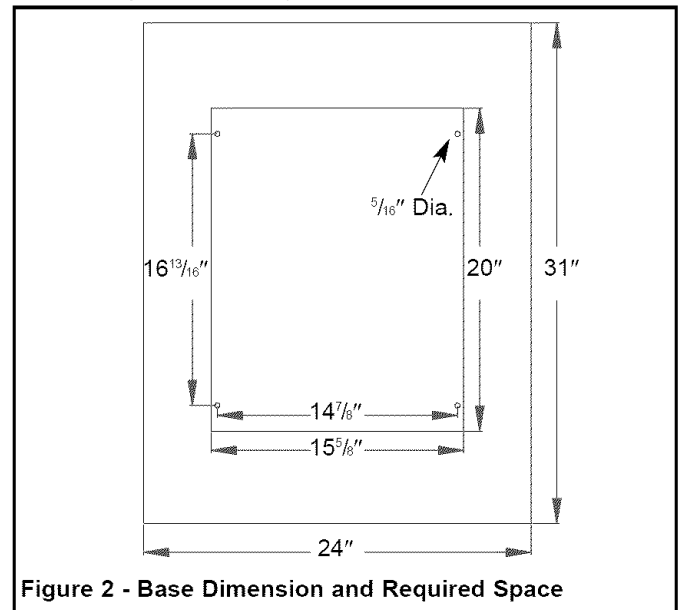

Figure 2 - Base Dimension and Required Space
Refer to Figures 2 - 6.
Refer to Figure 2.
- Figure 2 shows the base dimensions, mounting holes and required space to allow for table assembly and belt assembly in horizontal position.